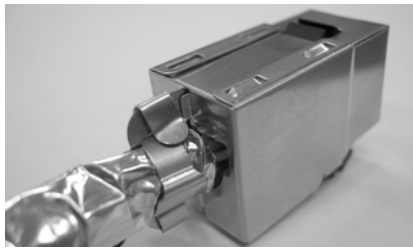

Figure 25
13. Firmly squeeze shield belts tightly around the foil. Fold the belt ends up and over the shield as shown in Figure 25.